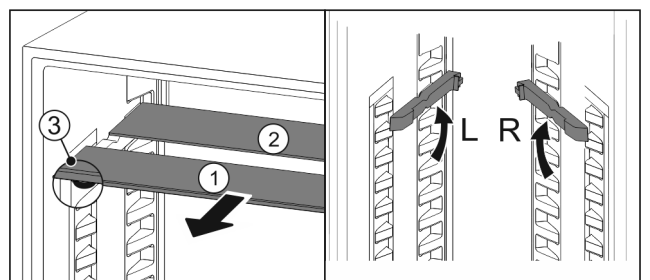

Fig. 46
- ▶ Pull the glass panels out *Fig. 46 (1)* from the front, one at a time.
- ▷ The glass panel *Fig. 46 (1)* and trim strip are at the front.
- ▷ The stops *Fig. 46 (3)* point down.